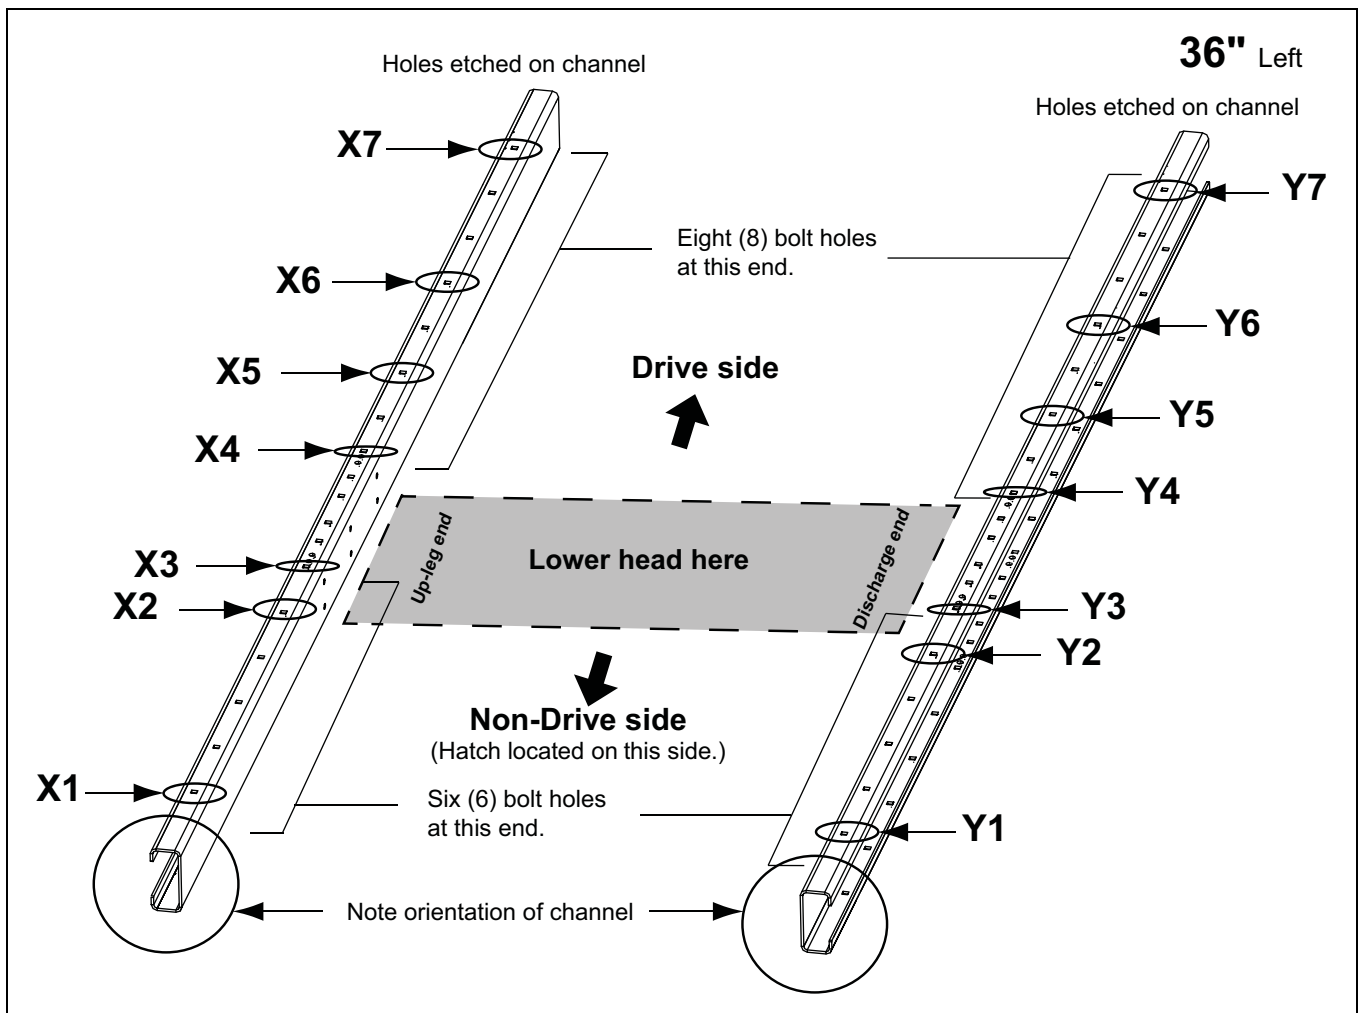
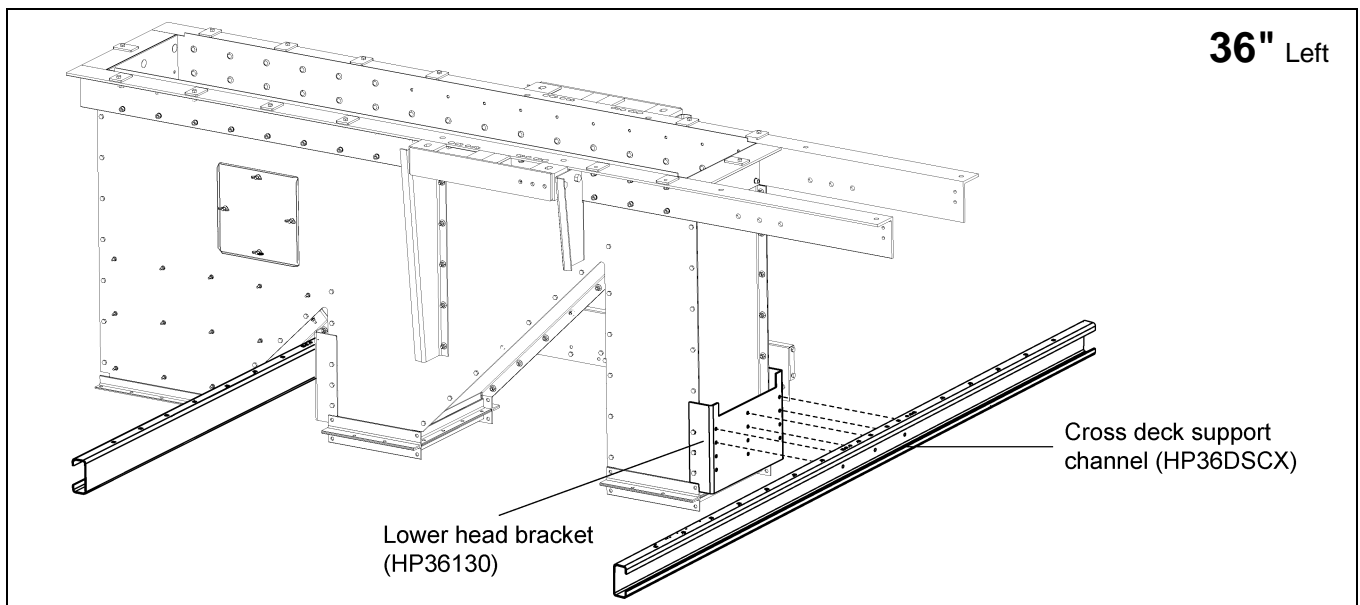

Figure 9B 36" Left Side Drive Channel Position
Figure 9C
(See Figure 9B on Page 79.)
3. Attach cross deck support channels (HP36DSCX) to the top most set of holes of the lower head brackets (HSP36130) using 3/8" x 1" bolts and nuts. (See Figure 9C on Page 79.)
***NOTE:** The channels *MUST* be oriented as shown in Figure 9B and Figure 9C on Page 79 in order for the decking and subsequent assembly to be done correctly.